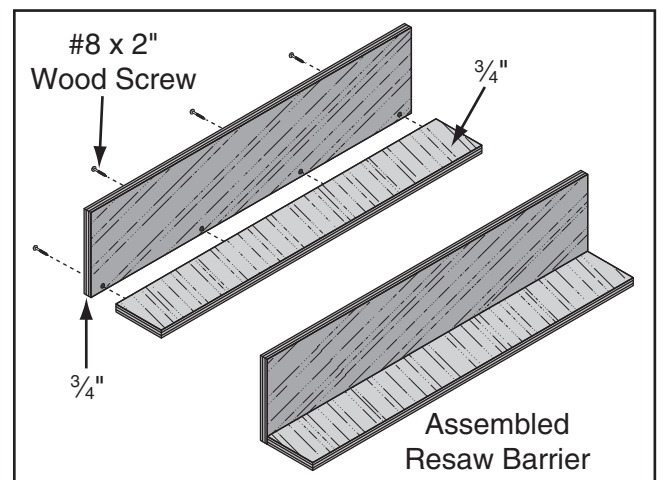

Figure 102. Resaw barrier.
3. Glue the end of the 3" board, then clamp the boards at a 90° angle with the larger board in the vertical position, as shown in **Figure 102**, then fasten together with the wood screws.